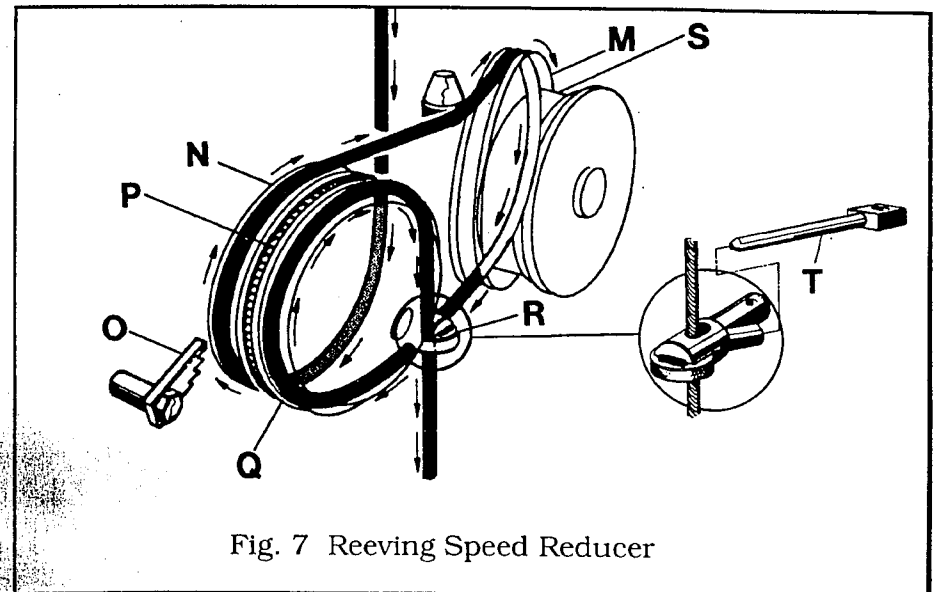

Fig. 7 Reeving Speed Reducer
- c. **Pawl Test**—Pull and release the spring-loaded pawl (Item O—Fig. 7) to make sure it snaps back into place freely. The pawl should engage the clutch plate teeth when powering the unit down and prevent the clutch plate from rotating.
- d. **Visual Inspection**—Raise and lower the unit three to four feet with its intended load. Be sure the wire rope is seated in the right grooves (Fig. 7) and secured behind the confinement pin (Fig. 7, Item T) inside the bottom fairlead (Fig. 7, Item R).